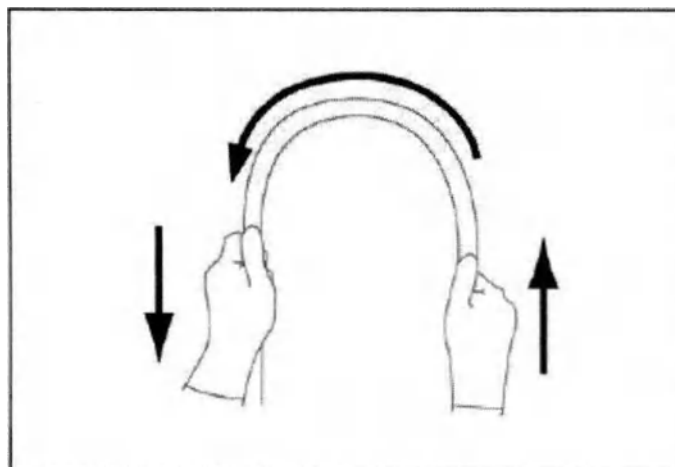

Fig 3.2
6. Using both hands, bend the insertion tube of the endoscope into a semicircle. Then, moving your hands as shown by the arrows, confirm that the entire insertion tube can be smoothly bent to a semicircle (Fig 3.2)